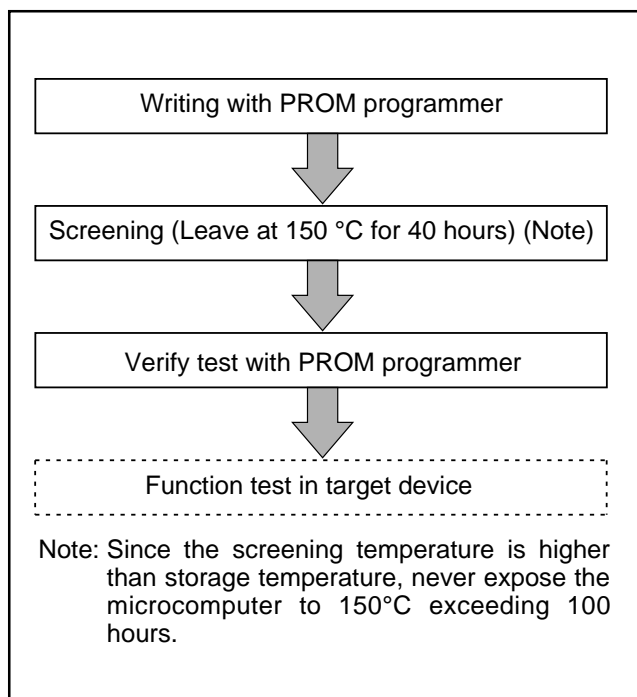

Fig. 43 Flow of writing and test of the product shipped in blank
(2) Notes on handling
- ① A high-voltage is used for writing. Take care that overvoltage is not applied. Take care especially at turning on the power.
- ② For the One Time PROM version shipped in blank, Mitsubishi Electric corp. does not perform PROM writing test and screening in the assembly process and following processes. In order to improve reliability after writing, performing writing and test according to the flow shown in Figure 43 before using is recommended.